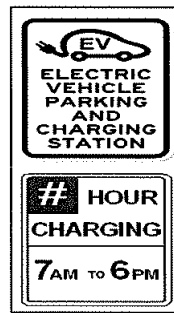

Figure 1. Electric Vehicle Charging Station Sign
- a. Signage and Markings. All electric vehicle parking spaces shall be prominently designated with a permanent above-ground sign which shall conform to Figure 1 below entitled "Electric Vehicle Charging Station Sign." The bottom of the sign must be at least 5 feet above grade when attached to a building, or 7 feet above grade for a detached sign. The property owner or operator may establish the hours during which vehicles may be charged and the length of charging time permitted per vehicle, provided such information is depicted on the sign in the manner shown in the figure below.